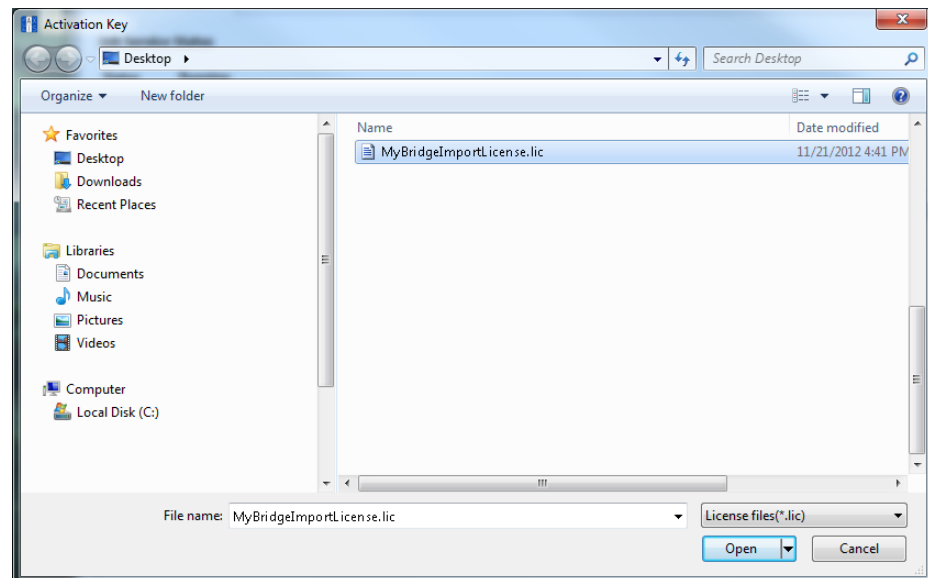

Figure 2-3. Activation Key
- 3 Click **Activate Bridge Import License**. When the *Activation Key* dialog box opens, navigate to the license file and select it (Figure 2-3).